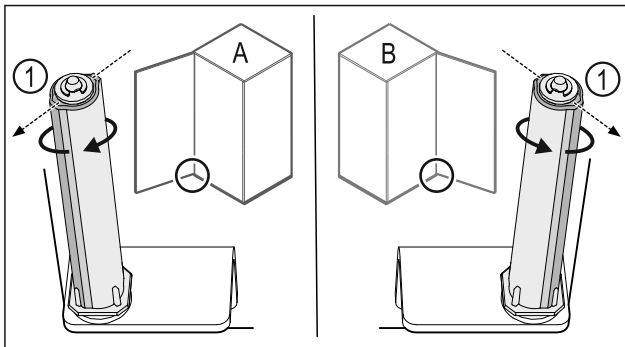

Fig. 36 Left-hinged (A) / Right-hinged (B)
- Turn the closing system against the resistance until the bar of the closing system Fig. 36 (1) points outwards.